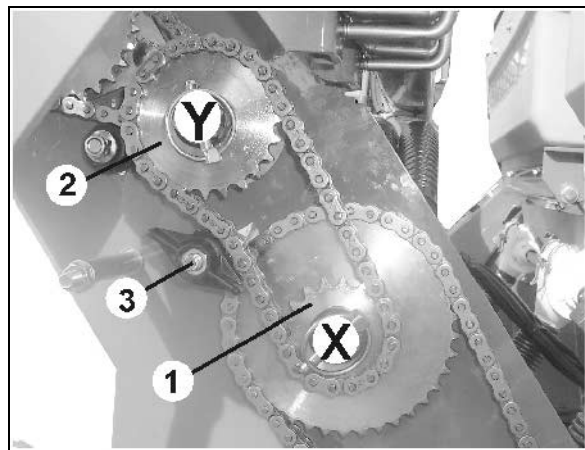

Fig. 51
3. Slacken the chain tensioner (Fig. 51/3) with the aid of the thumb nut.
4. Remove the lynch pins of the chain wheels (Fig. 51/1, 2).
5. Pull both chain wheels (Fig. 51/1, 2) including the chain off the hex. shafts.
6. Mount the chain wheels (Fig. 51/1, 2) with chain in reverse order on the hex. shafts and secure using lynch pins.